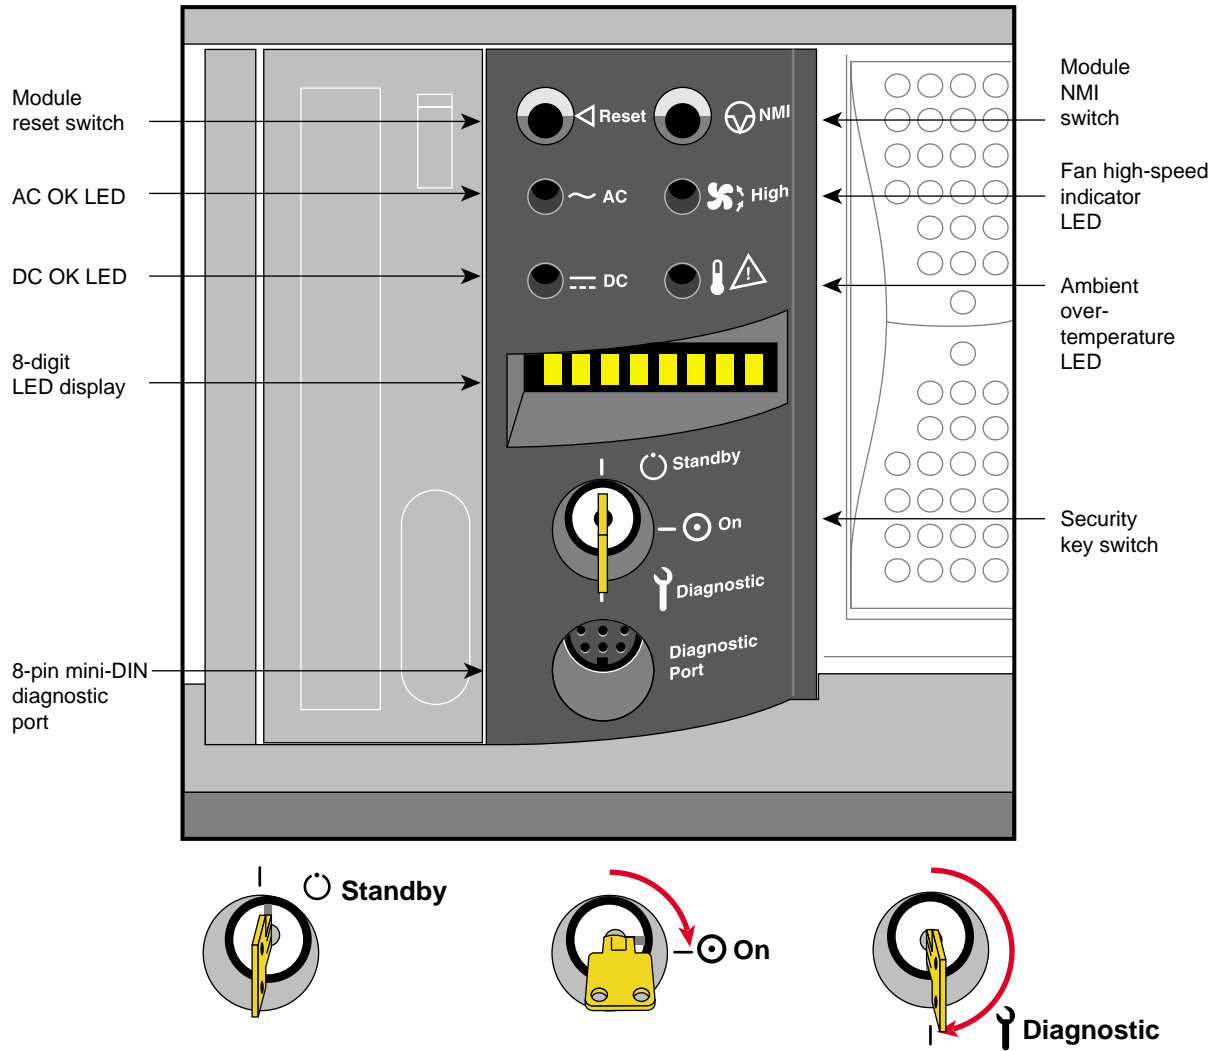

Figure 4-3 MSC Key Positions
4. Turn each graphics module System Controller (MSC) keyswitch to the on position (see Figure 4-3).
14. Turn each compute MSC keyswitch to the on position (as seen in Figure 4-3).